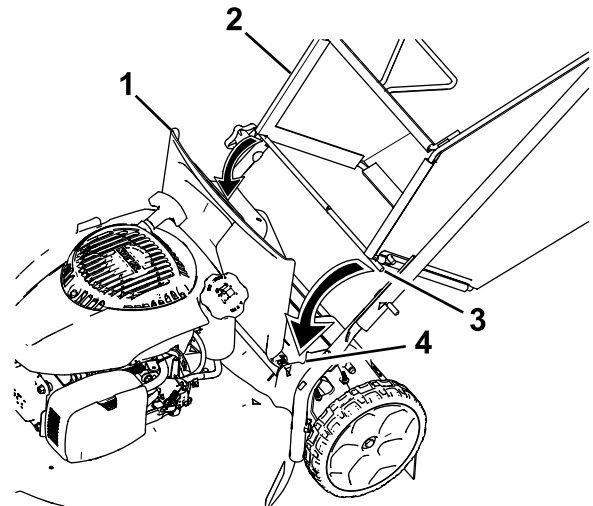

Figure 18
1. Lift up the rear deflector (Figure 18).
2. Insert the rod ends of the grass bag into the notches in the handle brackets (Figure 18).